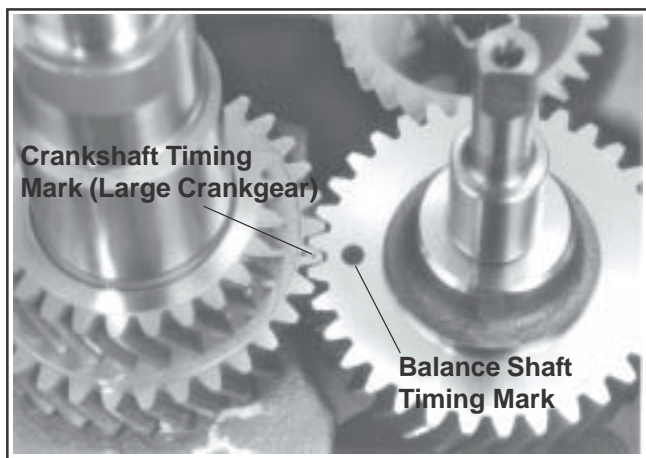

Figure 11-10. Aligning Timing Marks on Crank Gear and Balance Shaft Gear.
3. Make sure the balance shaft gear, large crankshaft gear and the governor gear teeth mesh and the timing marks are aligned. See Figure 11-10.